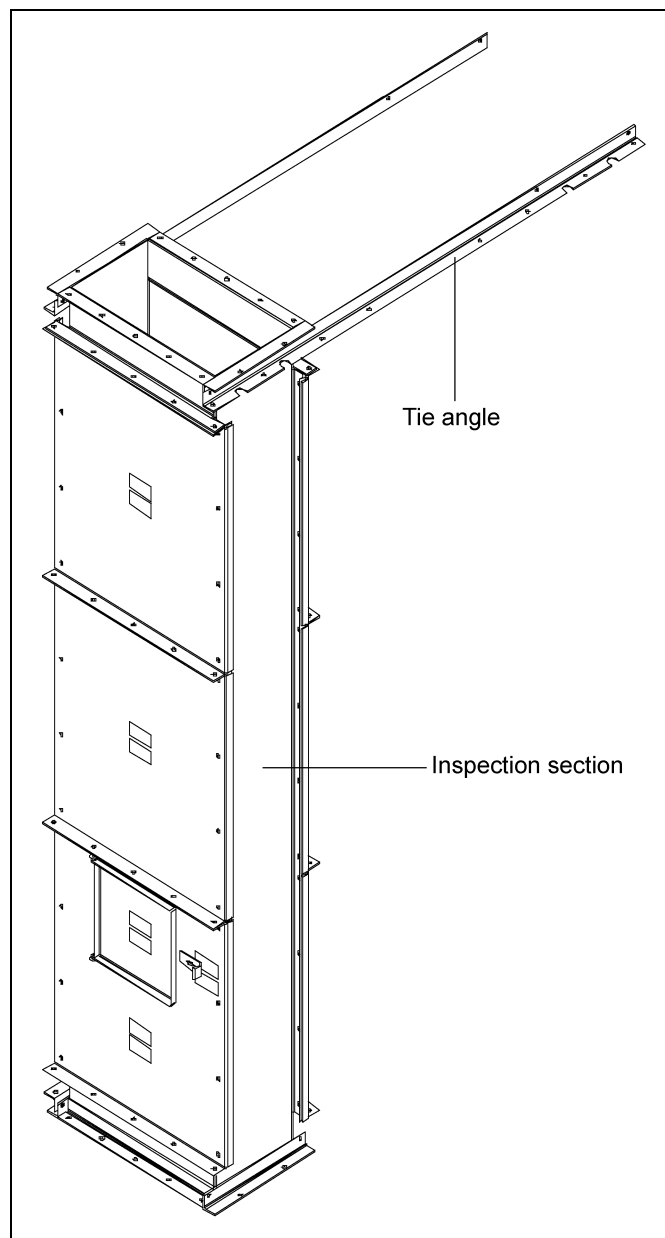
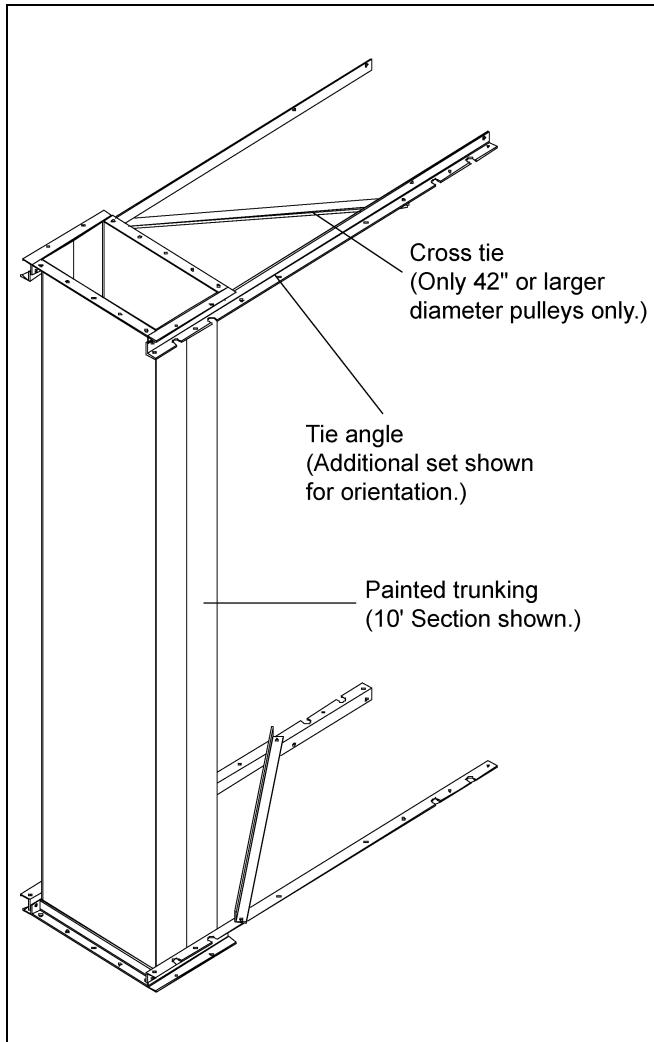

Figure 6B *Inspection Section*
Figure 7A Painted Trunking
NOTE: *Along with the inspection section, you will receive installation hardware and two (2) tie angles. Units containing 42" diameter pulleys and larger, will include a cross tie on the legs, which will be included. (See Figure 6B below and Figure 7A on Page 19.)*